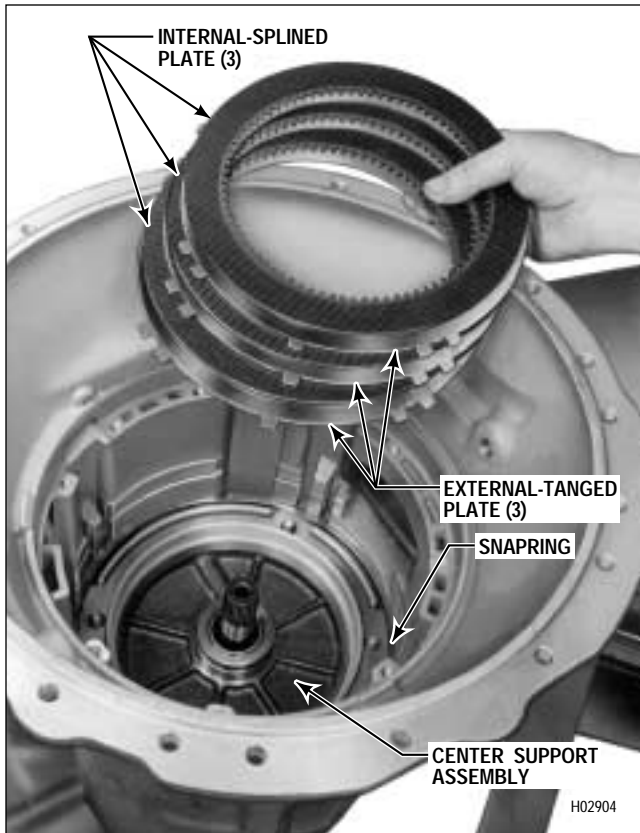

Figure 5-17. Removing Third Clutch Plates
(3) Remove six (models without retarder) or seven (models with retarder) third clutch plates (Figure 5-17).
(1) Remove the snapping that retains the center support assembly (Figure 5-17). This is a selective thickness snapping.